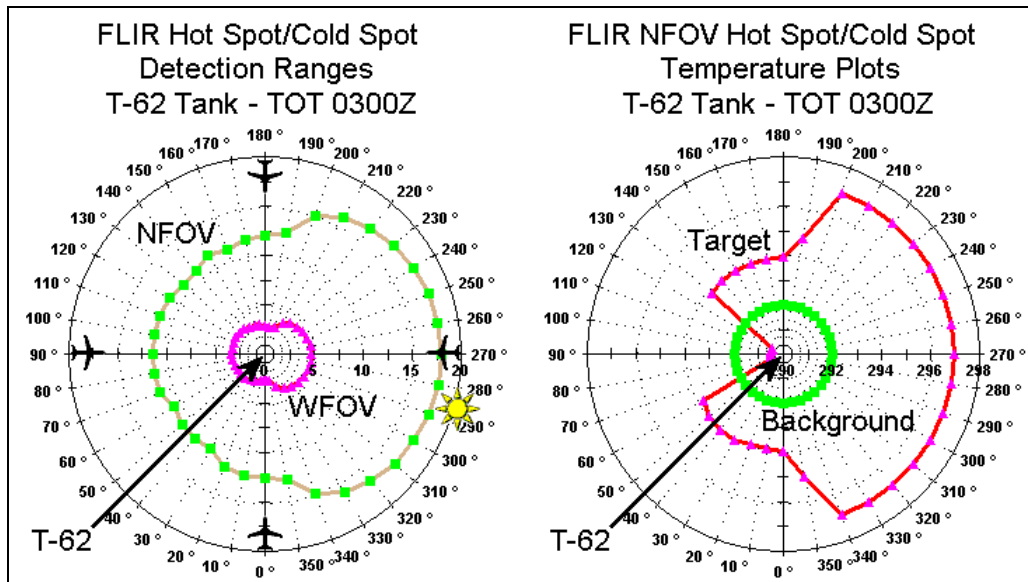

Figure 34 – TAWS range versus view direction plot
- h. Range versus View Direction products (figure 34) when TOT is known.